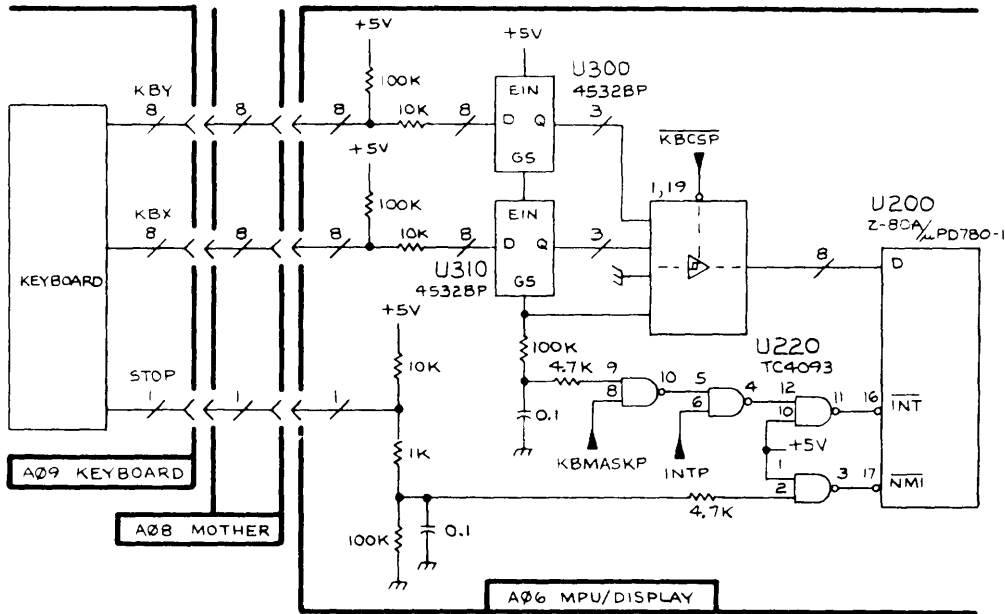

Figure 7-33. 338 Keyboard test schematic.
**Description:** Refer to Figure 7-33. Key codes are generated by the A09 board when any key is pressed. The Y-lines and X-lines of the key matrix on the A09 board (excepting the STOP key) are connected to U300 and U310 (8-bit priority encoder, 4053BP) on the A06 MPU/Display board through the A08 Mother board. U310 is enabled when U300 receives a key signal and issues a  $\overline{\text{INT}}$  (Maskable Interrupt) to the MPU through the CR timer circuit. The  $\overline{\text{INT}}$  is controlled by U220 (NAND gate, TC4093) on the A06 board with KBMASKP from U100 (hex D-type flip-flop with reset, 74LS174) on the A05 ROM/Threshold board.